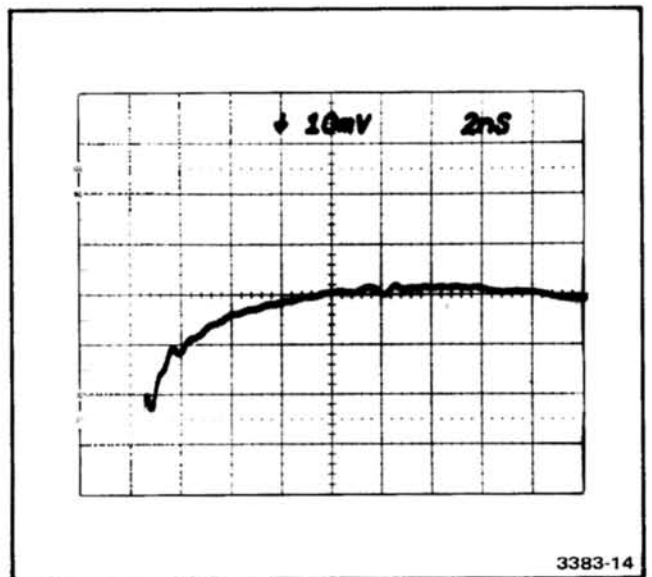

Fig. 4-4. Typical sampling oscilloscope response display.
- k. CHECK—that the aberrations are within 2% (1 div). Refer to Fig. 4-4.
- s. Position the display to measure the waveform risetime. Refer to Fig. 4-4.